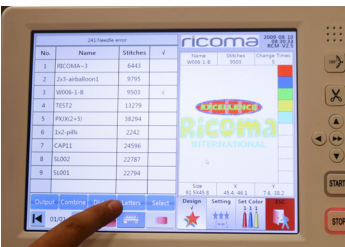

Figure 71
3. Select the "Letters" option along the bottom row of keys. This will open the on-board lettering interface. **See Figure 71.**